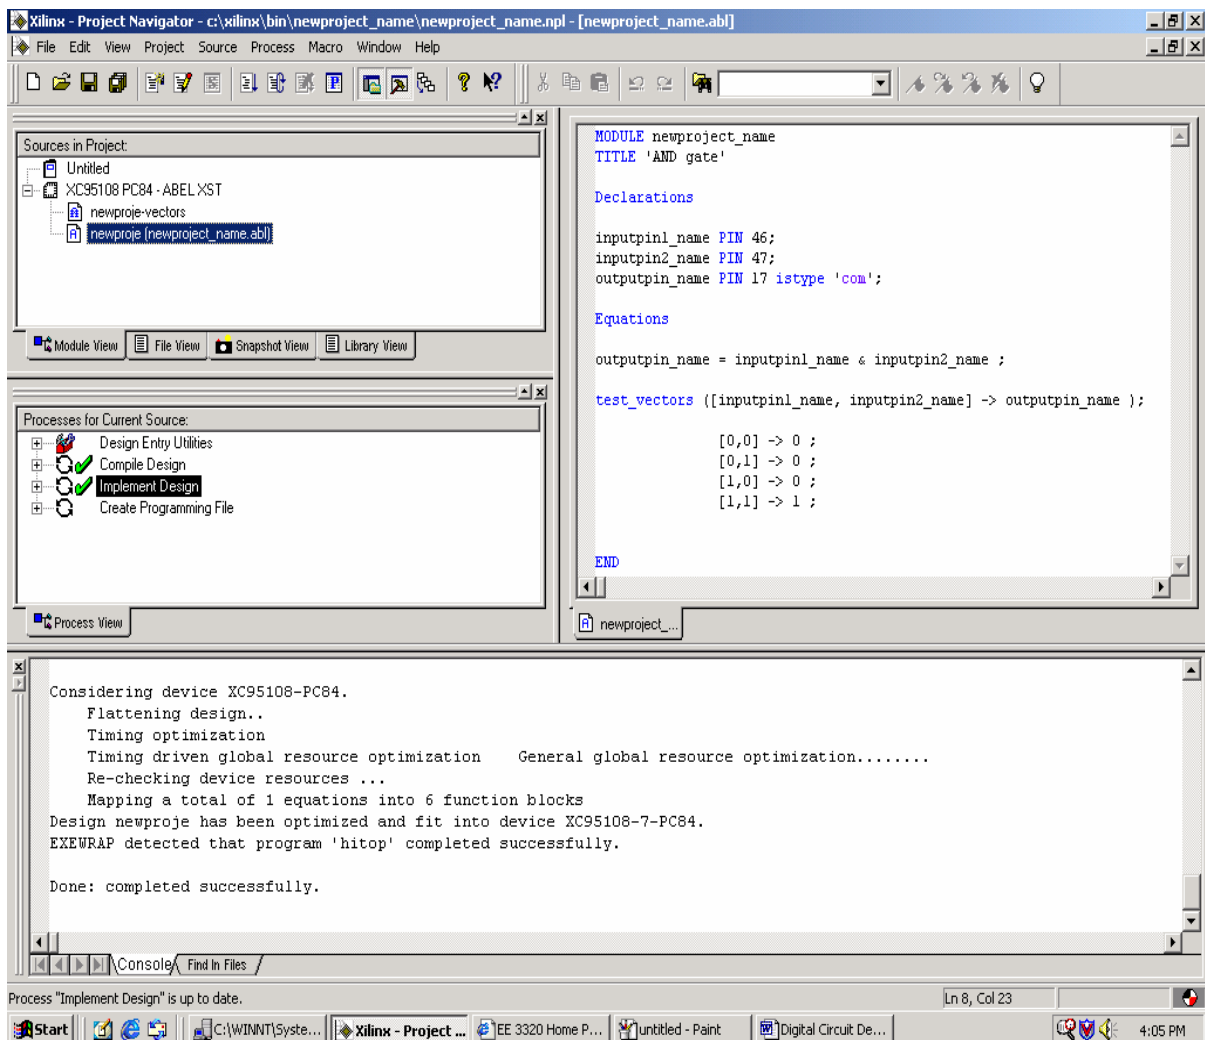

Figure 16 : Assigning I/O pin numbers (snapshot from Xilinx ISE software)
- Assign pin numbers to the input and output pins in the ABEL – HDL design file. The pin numbers can be assigned by looking at section 8 of this tutorial. Then save the design file and implement the design again. **Note that you can assign pin numbers only to top-level ABEL file.** Let's assign some valid pin numbers for our example and implement it. Then the Project Navigator window looks as shown in Figure 16.